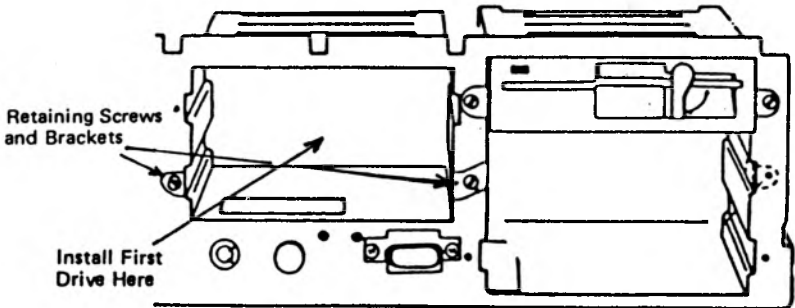

Figure 5
For a single hard disk drive system, the disk drive is installed into the PC in the location as shown in Figure 5. To do this, use the following procedure:
1. Remove the two retaining screws and brackets as shown in Figure 5.